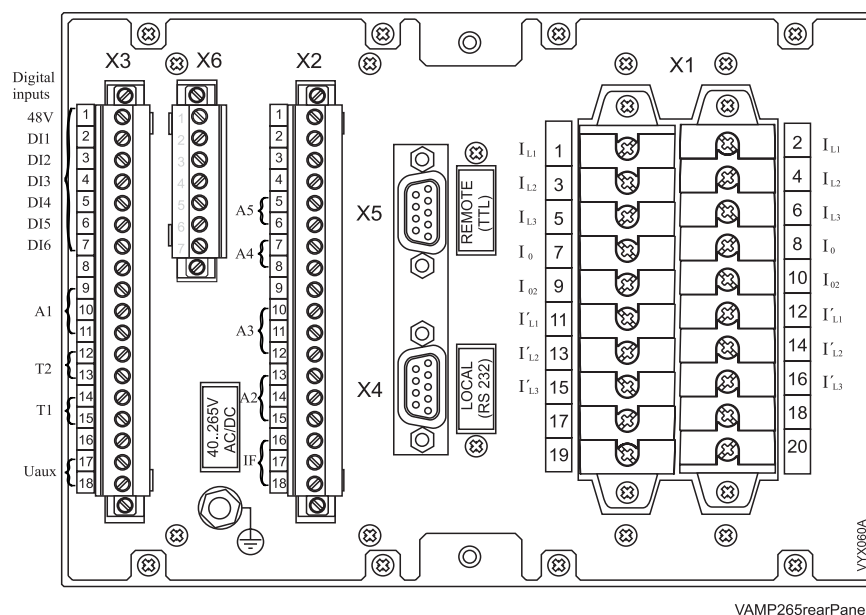

Figure 4-1 Connections on the rear panel of the relay.
The generator, transformer and motor differential protection relay is connected to the protected object through the following measuring and control connections, Figure 4-1:
- RS 232 serial communication connection for computers, connector LOCAL (RS 232), connectors on front panel and rear panel connected in parallel, see Figure 4-1.
- Remote control connection, connector REMOTE (TTL) on the rear panel of the relay, see Figure 4-1.